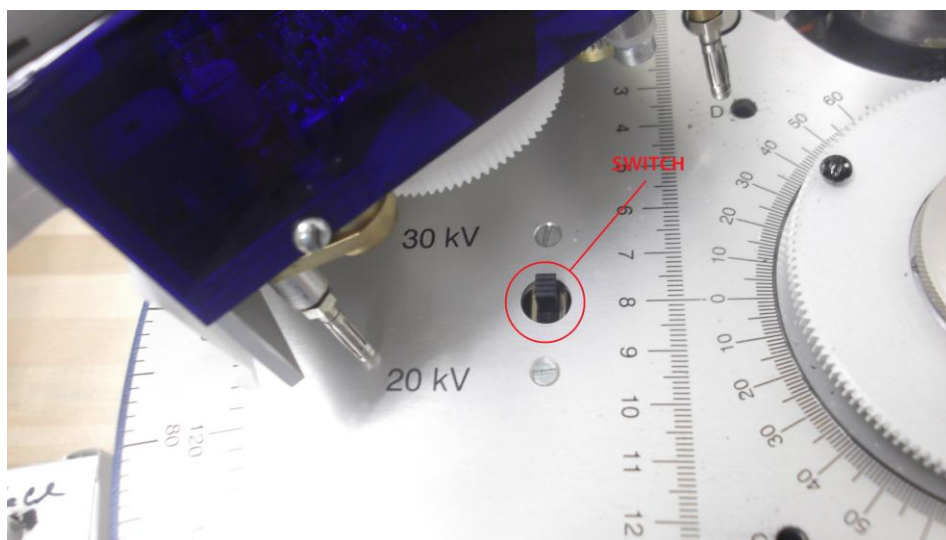

Figure 3
- g. For the first part of the experiment, apply 30 kV across the anode and cathode by setting the switch located below the TEL-X Driver 2590 (blue box) to 30 kV. The instrument may be set to 20 kV or 30 kV by a switch located under the driver module for automated scanning (See Figure 3). To access this switch, swing the blue driver to the left and lift the module out.